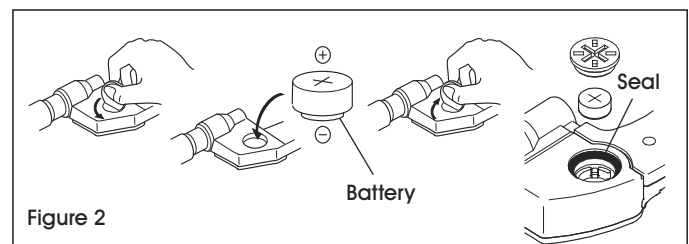

Figure 2
- Install the supplied battery. (See Figure 2)